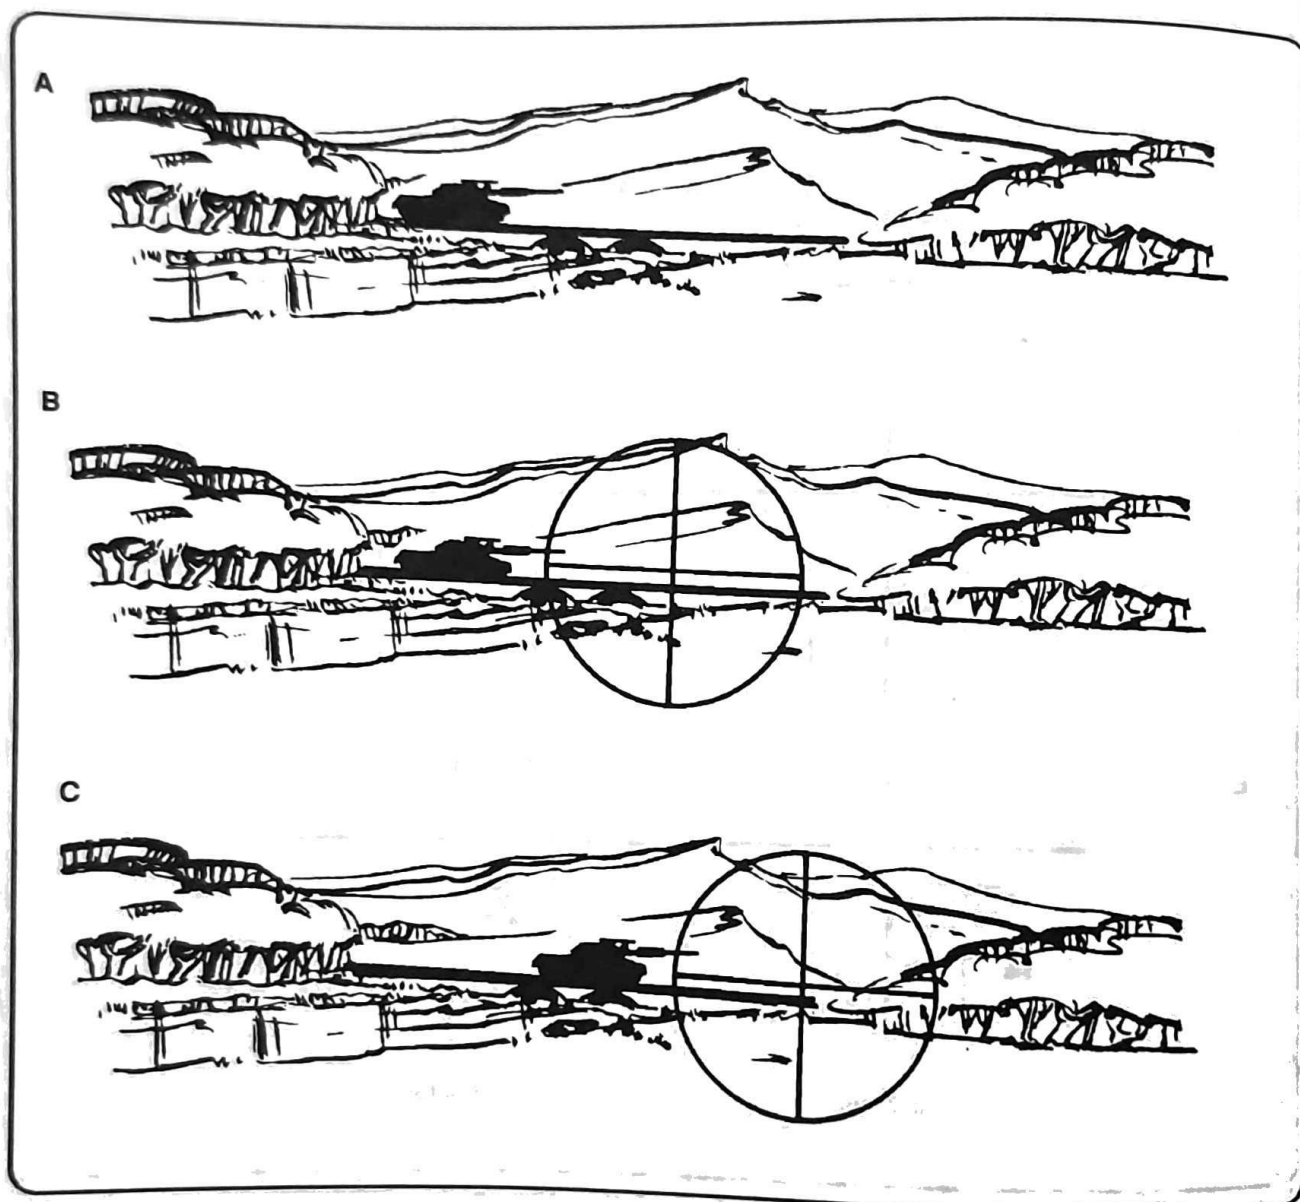

Figure 3-19. Target determination.
this determination. The gunner lines up the tracker sight directly in front of the target. If there are no obstructions or covered areas along the expected path of the target and the target is moving 35 kmph or less, the gunner can successfully launch and destroy it. (See A, Figure 3-19.)
b. The gunner places the cross hairs center of mass and fires—the target will not be able to reach the protection of the hill in time. (See B, Figure 3-19.) If the gunner does fire—the target will reach the protection of the hill before the missile hits. (See C, Figure 3-19.)